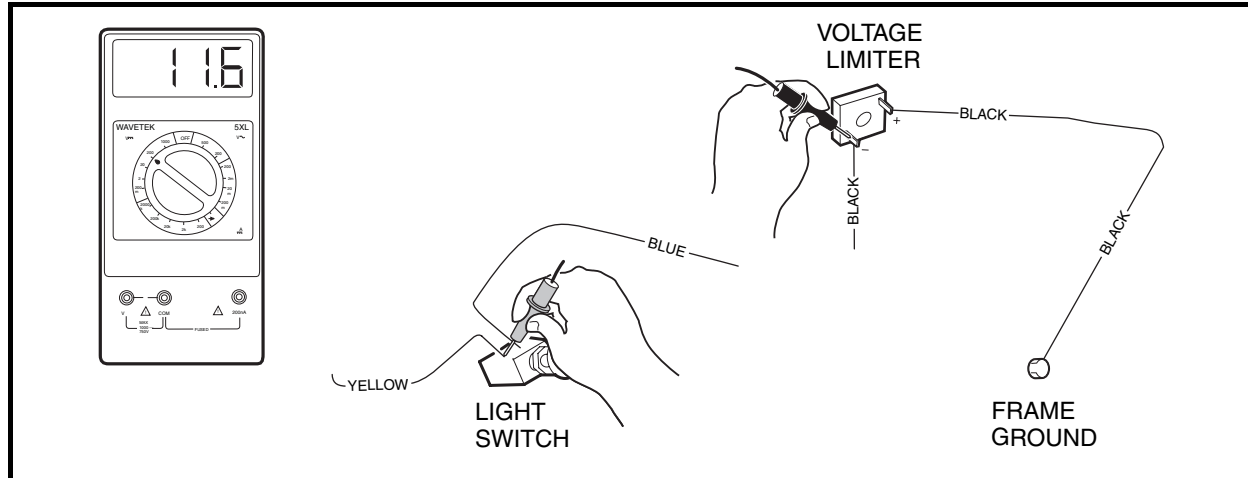

Figure 12-36 Voltage Limiter Circuit Test
4. Using a multimeter set on 20 volts DC, connect the red (+) probe to the light switch terminal with the yellow wire (Figure 12-36, Page 12-36).
5. Loosen the black wire connector (on the end of the long black wire) at the voltage limiter just enough to maintain the connection and yet expose part of the metal terminal in the connector. Place black (–) probe on the connector (Figure 12-36, Page 12-36).